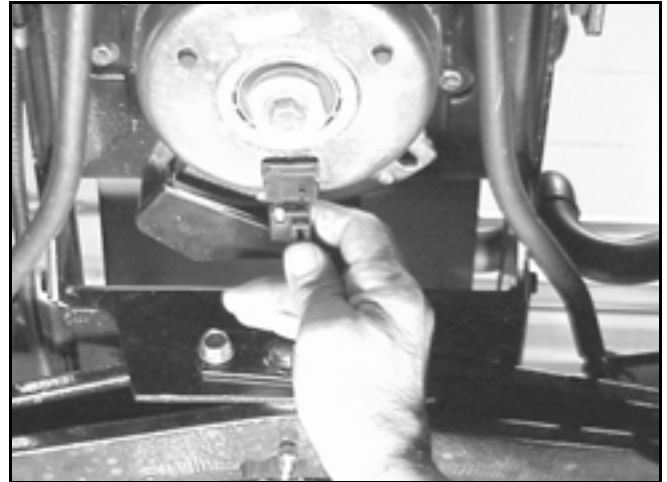

Figure 161
13. Reconnect the electric PTO clutch wire (Figure 161).